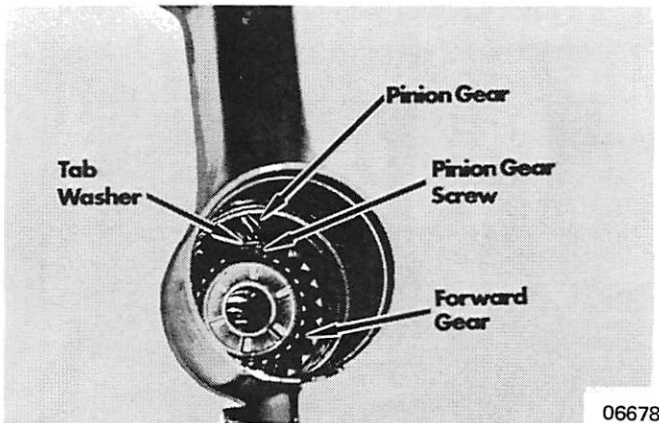

Figure 3. Removing Pinion Gear
3. Bend back tab washer and remove screw from drive shaft pinion gear nut with a thin box-end wrench (right hand thread). (Figure 3)